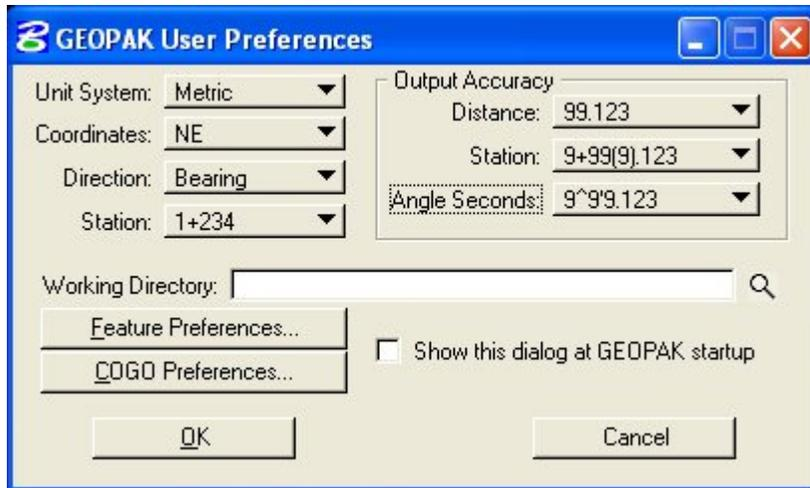

Figure 12-2: User Preferences Dialog
Figure 12-2: User Preferences Dialog.....	12-2
1. From the User Preference dialog shown on Figure 12-2, select the Feature Preferences button.